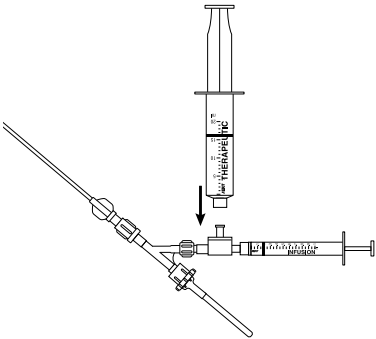
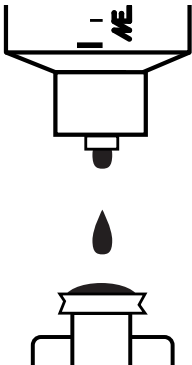

Figure 8
Figure 9
9. The reservoir syringe containing saline is removed from the inlet port of the check valve. Replace it with a reservoir syringe containing the desired therapeutic solution (Figure 8). Drip a tiny volume of therapeutic solution into the input port luer lock to raise a meniscus as the connection is made (Figure 9), thereby preventing the introduction of air bubbles into the system.